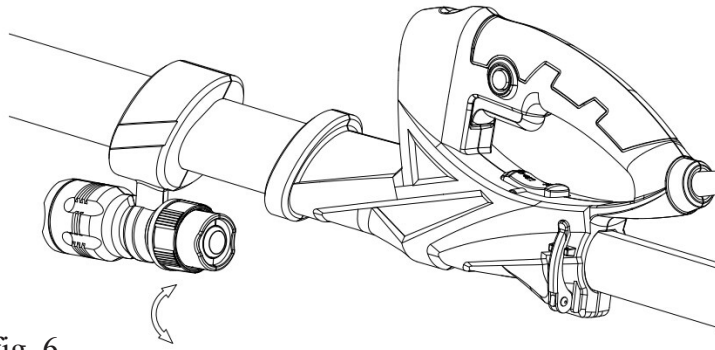

fig. 6
10. LED light installation (figure 6 & 7).